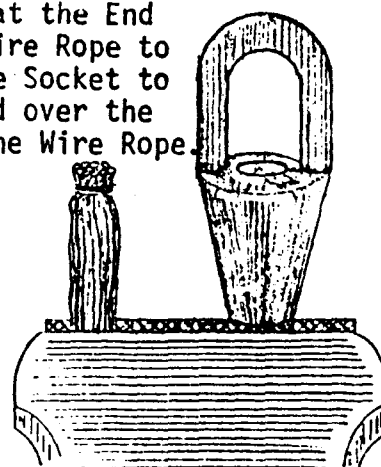

FIGURE 3-12
2. Installing Socket - The rope should now be placed in a vise, as shown in Figure 3-12, and a temporary seizing attached to hold the wires of the rope together so the socket can be placed over them.